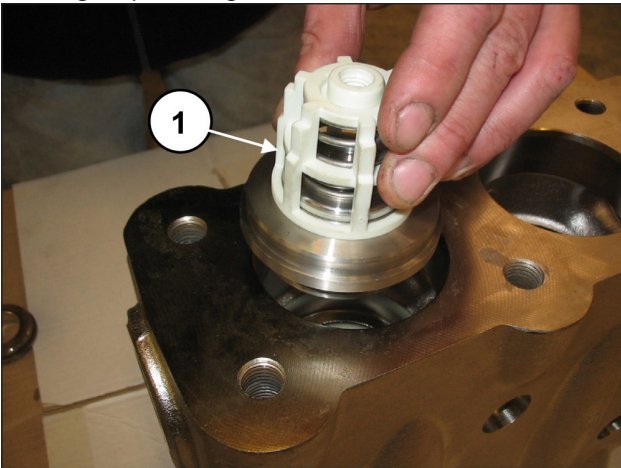
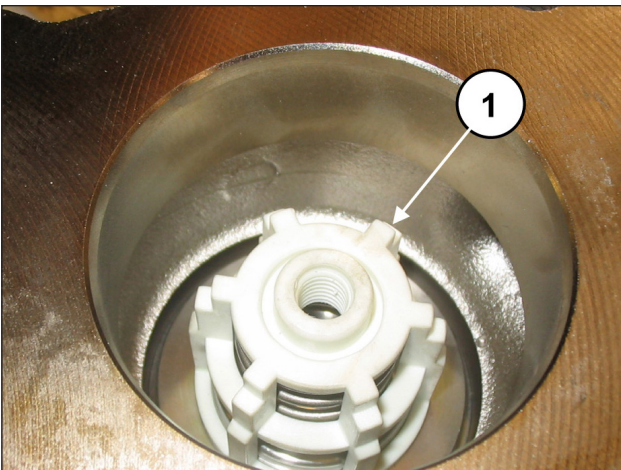

Fig. 118
Fig. 119
Insert the outlet valve unit (pos. ①, Fig. 118). The valve unit must be fully inserted into the bottom and should look like the image in pos. ①, Fig. 119.